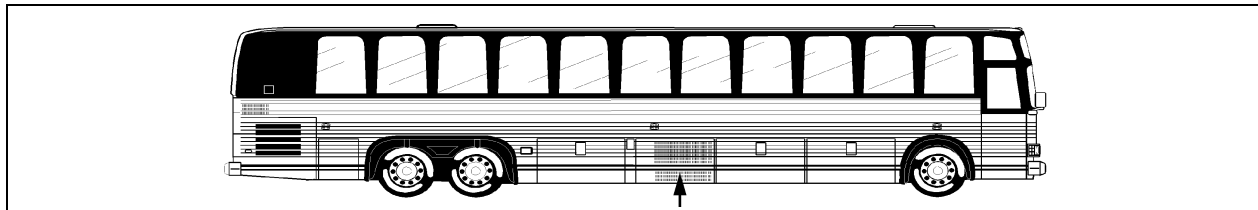

Figure 4: Typical location of condenser compartment.
1. Open the condenser compartment (figure 4).